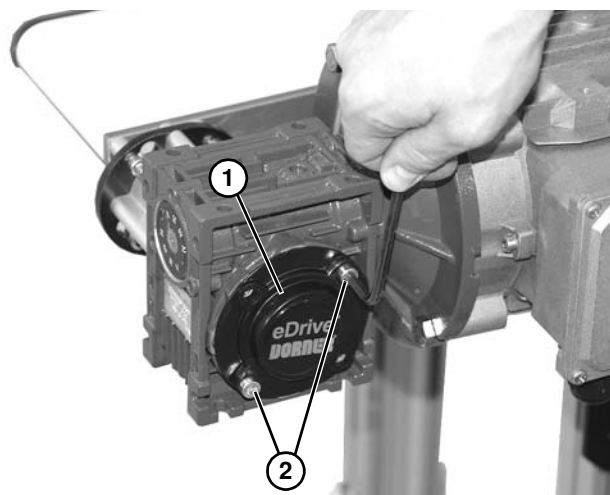

Figure 10
12. Install cover (Figure 10, item 1) and two screws (Figure 10, item 2). Tighten screws to 60 in-lb (7 Nm).